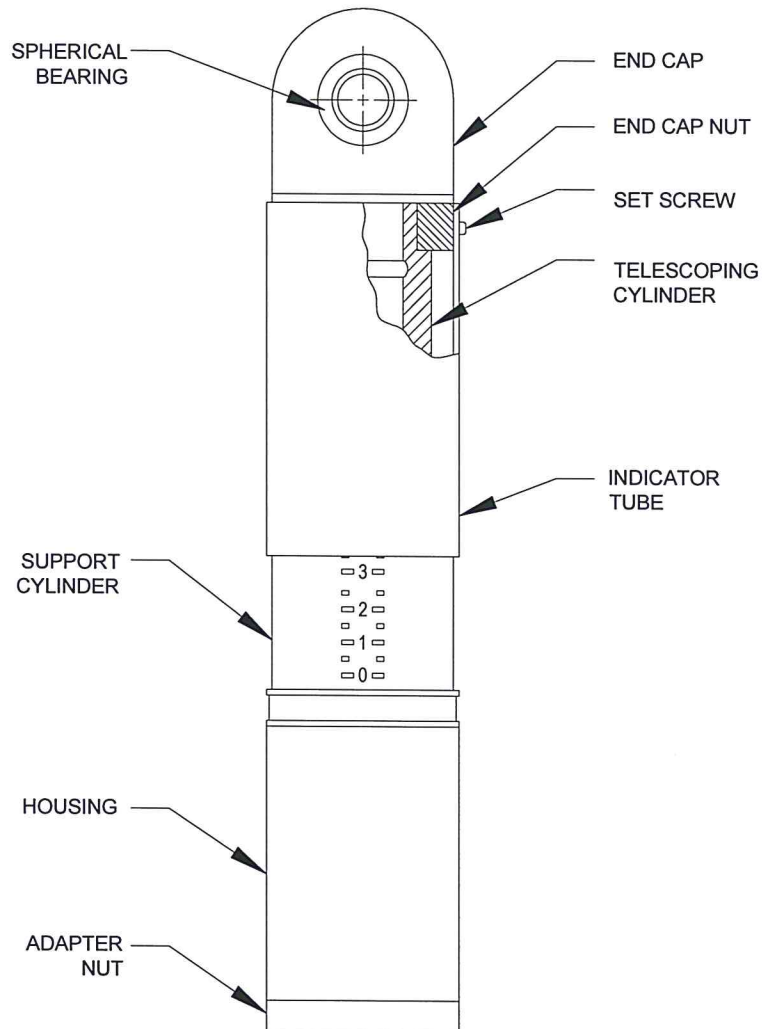

Figure 3-1
- 3.1** See Figure 3-1, page 21, for an illustration of a typical model. The inner mechanisms of the two models are of the same basic design. The difference is in the size of the components as related to load carrying capability.
- a. With the assembly cradled on a bench remove the screws and indicator tube. Extend sufficiently to expose part of the telescoping tube (Refer to Figure 3-1